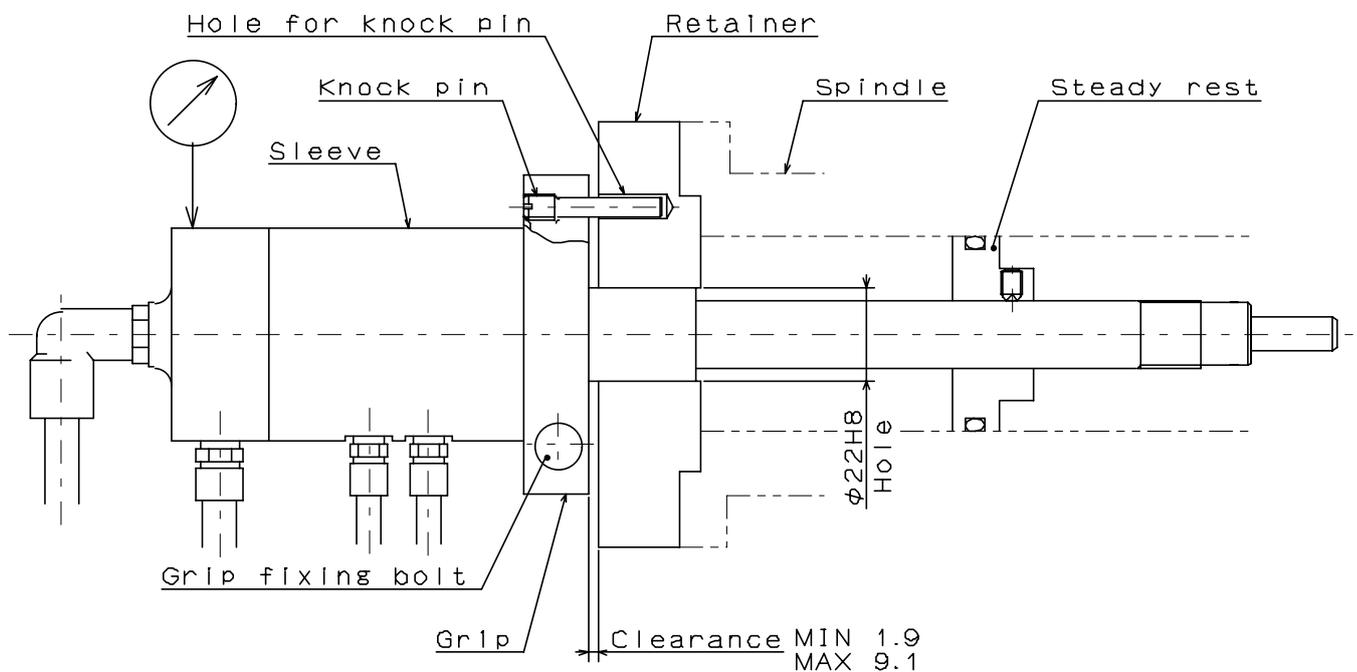

Fig.3
7. As shown in Fig.3, rotate the spindle by hand to check that the run-out at the back end of the sleeve is 0.12 or less.
- When LR length is 600 mm or more, prepare the steady rest as shown as Fig.3. If the steady rest is not prepared, a feed tube may be damaged by vibration, this is dangerous as the workpiece will fly out.